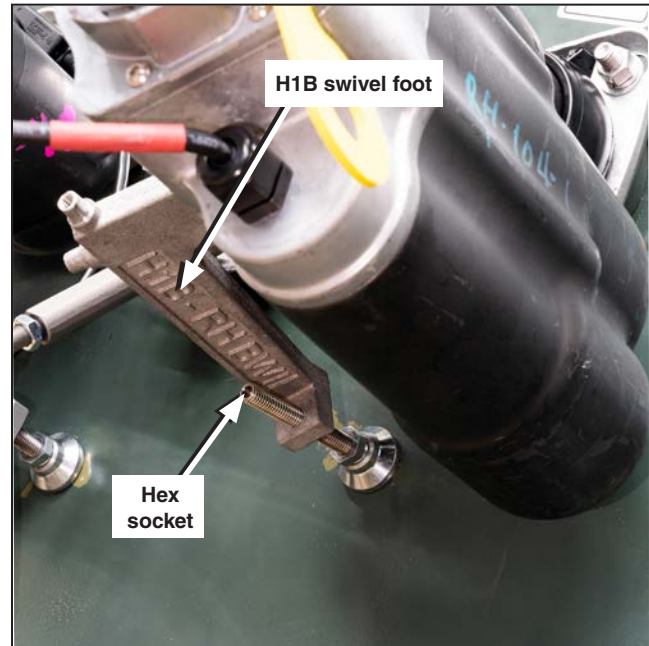

Figure 25. The hex socket at the top of the H1B bushing well interrupter swivel foot.
- STEP 1.** The hex socket at the top of the swivel foot is keyed for a $\frac{3}{16}$ -inch Allen wrench. Tighten the swivel foot until it is hand tight against the transformer wall. See Figure 25.